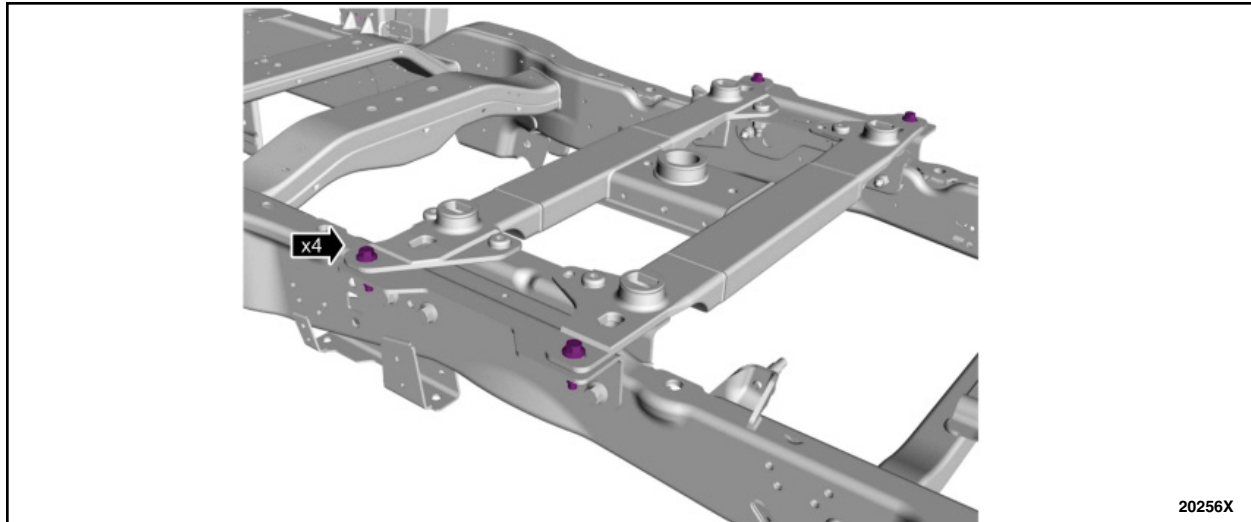

FIGURE 31
42. Install the hitch-to-outer bracket bolts. See Figure 31.